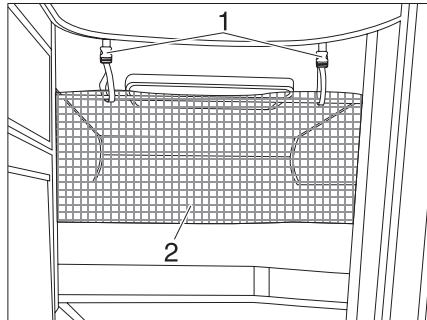

Fig. 101 Safety net
- ▶ Fasten the retaining straps (Fig. 101,1) to the holders on the ceiling (Fig. 101,2).
The safety net (Fig. 101,1) is stored as standard between the mattress and slatted frame. Do not use the safety net until the person is already in bed.
- Fasten the retaining straps (Fig. 101,2) to the holders on the ceiling.